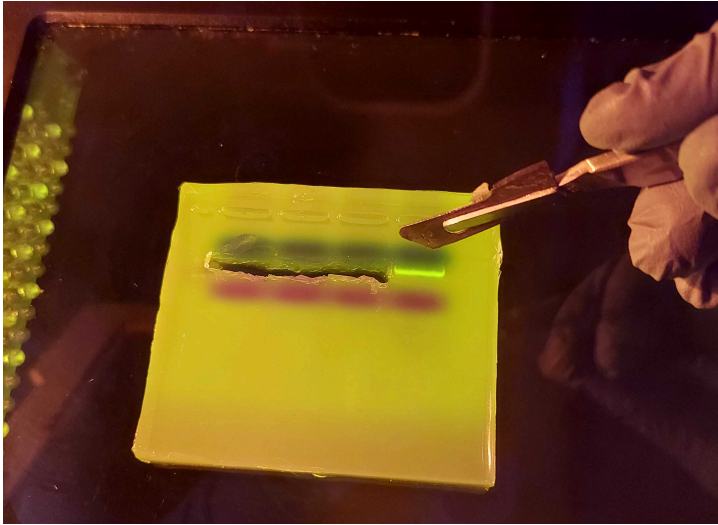

Figure 4.1. PCR product incision from agarose gel.
12.1 Cut the gel band (Figure 4.1.) and weight it in a 2 ml Eppendorf tube (tare the tube first).